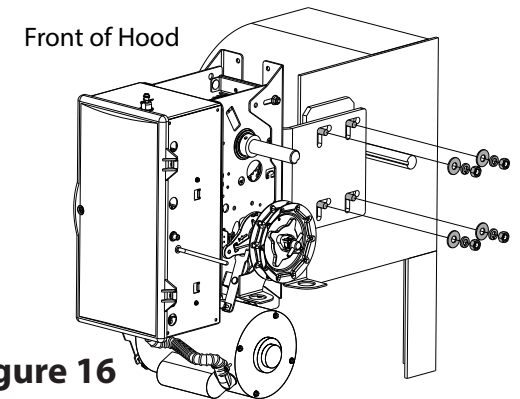

Figure 16
- Attach operator assembly to weld plate using hardware provided. Do not tighten. See Figures 16 and 17